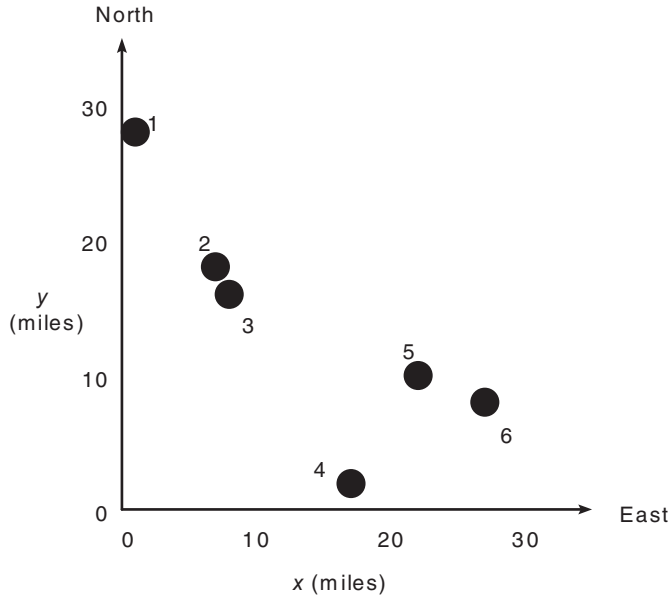

Figure P28
- 28.\*** A company wants to locate a distribution center that will serve six of its major customers in a  $30 \times 30$  mi area. The locations of the customers relative to the southwest corner of the area are given in the following table in terms of  $(x, y)$  coordinates (the  $x$  direction is east; the  $y$  direction is north) (see Figure P28). Also given is the volume in tons per week that must be delivered from the distribution center to each customer. The weekly delivery cost  $c_i$  for customer  $i$  depends on the volume  $V_i$  and the distance  $d_i$  from the distribution center. For simplicity we will assume that this distance is the straight-line distance. (This assumes that the road network is dense.) The weekly cost is given by  $c_i = 0.5d_iV_i$ ,  $i = 1, \dots, 6$ . Find the location of the distribution center (to the nearest mile) that minimizes the total weekly cost to service all six customers.